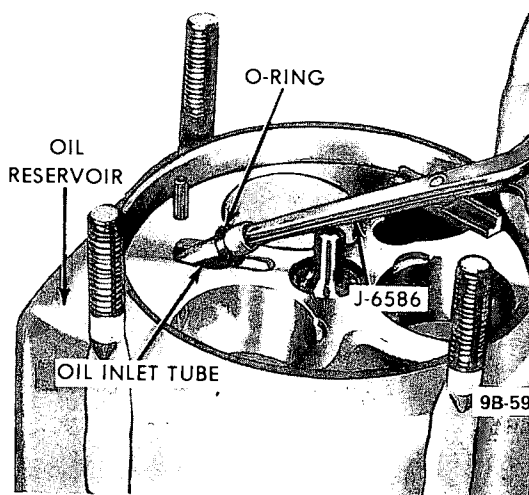

Figure 9B-84 Removing Oil Inlet Tube - 6 Cylinder Compressor
2. Push shaft upward from front head and lift out cylinder assembly (see Figure 9B-85), front suction valve reed disc, and front discharge valve plate.